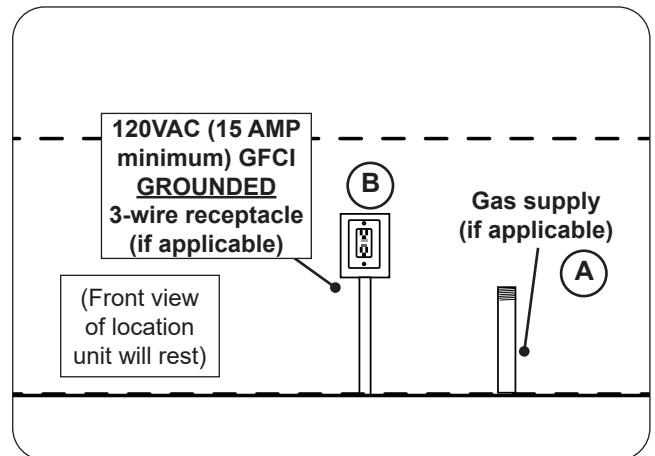

Fig. 26-1 Route gas and electrical (as applicable)
1. Ensure the gas supply is properly routed into the area that the unit will rest over (see Fig. 26-1, A).
1. Wire the receptacle into the area that the unit will rest over (see Fig 26-1, B).